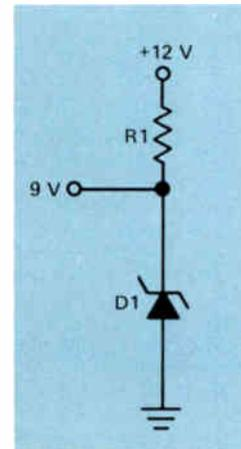

Figure 9. Zener diode voltage regulator circuit.
**Zener Regulation.** The circuit in Fig.9 shows how a zener diode can be used for voltage regulation. Here the input voltage applied to the circuit is 12 volts and the diode is maintaining the output voltage at 9 volts.